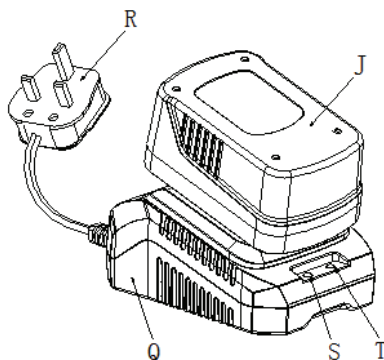

Fig 4
1. Insert the plug (R, Fig.4) into a 240V AC power outlet. The green LED power light (S, Fig.4) comes on, indicating the charger is ready for use.
2. Insert the battery pack into the receptacle in the charger (Q, Fig.4), making sure it is well sealed in the charger. The red LED light (T, Fig.4) will come on, and the green LED light (S, Fig.4) will shut off at the same time, indicating the battery is correctly seated and on charge.
3. If the red LED light (T, Fig.4) doesn't come on, and the green LED light (S, Fig.4) is still on, the battery pack is too hot and can not be charged. Remove the battery and allow it to cool for 30 minutes and then re-insert it.